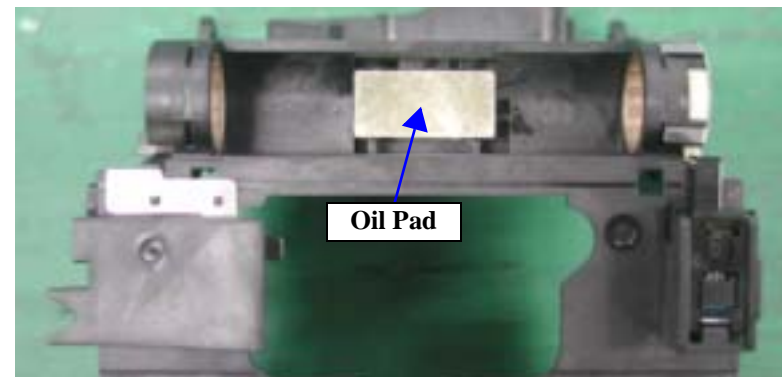

Figure 4-80. Oil Pad
- When removing the Carriage Guide Shaft A from the Carriage Unit, fully use care not to lose the Oil Pad at the lower rear of the Carriage Unit. Refer to Figure 4-80, "Oil Pad".